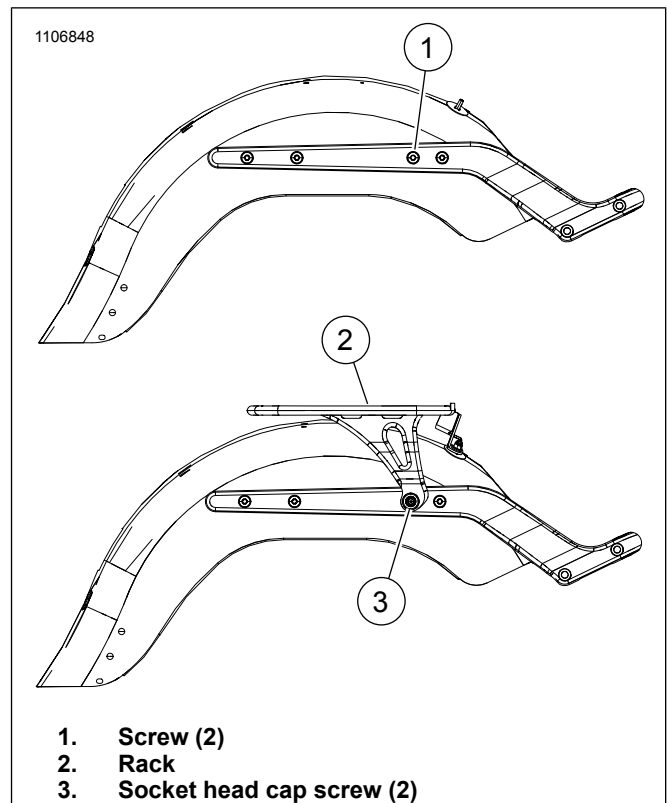
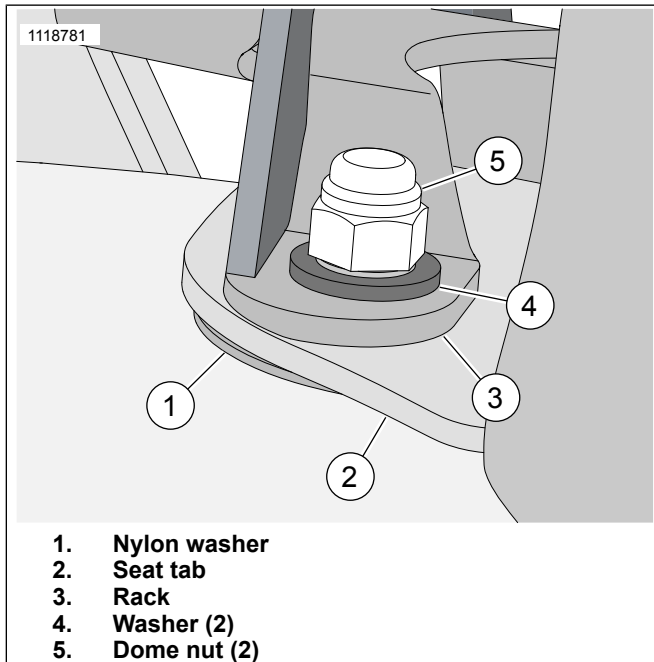

Figure 6. Kits 50300154 and 50300156
Figure 5. Hardware Installation
2. See Figure 6. Remove screws (1) from fender.
a. See Figure 5. Make sure nylon washer (1) and seat tab (2) are properly positioned on the studs.
- b. Position rack (3) on seat tab (2).
- c. Loosely install washers (4) and nuts (5).
- d. See Figure 6. Align holes in side plate of rack with fender.
- e. Loosely install both socket head cap screw (3) to hold rack in position.
- f. Remove one socket head cap screw (3) and apply threadlocker.